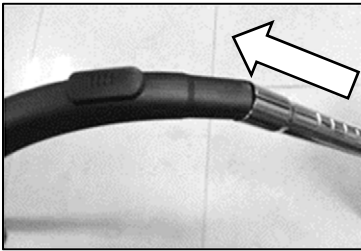

Fig 3
3. **Connect the telescopic tube to the curves:** Connect end of the hose to the telescopic tube. (Fig 3)
4. **Connect different nozzle tools to the tube for different cleaning purpose:** Insert floor brush into telescopic tube. Adjust and choose accessories to the type of ground, for carpet or floor (Fig 3); 2in1 combine brush & nozzle for sofa, wall surface, curtain, corner or space between furniture etc.